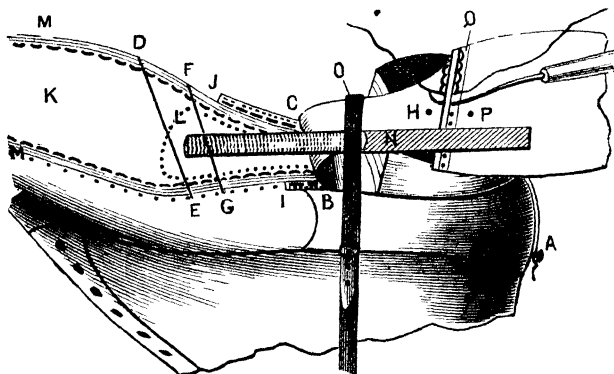
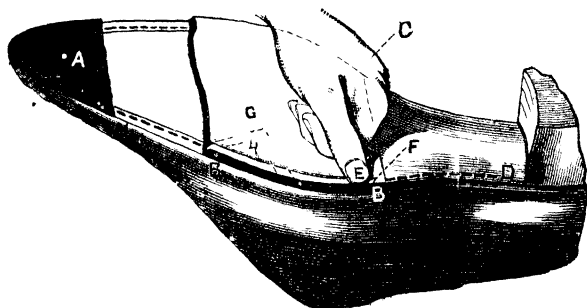
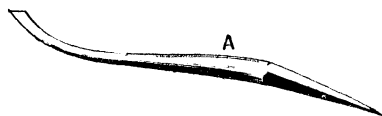
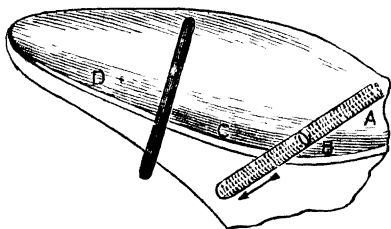

Fig. 52.—Grafting Sole to Waist.
Fig. 56.—Fitting, Stitching, and Sewing.
Fig. 58.—Blade of Stitching-awl.
Fig. 60.—Rubbing down Channel.
A thin long tack must be put in the back of the boot to keep the last in its place, as at A (Fig. 52). Then put the sole and welt part in water, and when wet, take out the boot, wipe it, and cut the old sole off. This is done by putting a knife between the sole and welt at B, and continuing right along, round the toe, and down the other side to C. The old sole can then be cut away, cutting across from D to E to make a riveted or pegged graft, as shown on p. 51, or from F to G to make a sewn graft.
**K** (Fig. 52); if not, replace it with new. Felt is used for this purpose; cut a piece a little larger than the old, and paste down the shank—this is generally a piece of skived leather, which reaches from under the heel to the dotted line, **L** (Fig. 52), and just the width of the waist. Then paste the new piece of felt in the bottom, well hammer it in all over; and when dry skive off the edge all round at **M M** (Fig. 52), making it level with
The boot is now put across the knees, in the position shown in Fig. 52, with the toe towards the left and the back part towards the right knee, and—as also shown in the illustration—with the old waist tied back. The new sole can be put against the old leather, and an old rasp, N, put along the top, as shown, and the strap or rope, O, placed round the waist of the boot, as shown, and passing over the rasp. The strap will, as it is pressed by the worker's foot upon the shank, L, the old waist, H, and the new sole, P, keep them all solid while the graft is being sewn. A strong thread—about fifteen strands of No. 9 Patent, or its equivalent of stouter hemp—should be used, and plenty of wax should be worked into the thread before it is twisted.
This grafting is done with the piece on the top of the heel, according to the position of the old leather, as will be seen in Fig. 52. This is the most convenient plan,
If it is found difficult to keep the sole firmly in position by means of the rasp only, a long rivet can be put in through into the old lifts at H, and another at P (Fig. 52). The heeling should be left till the soling is done, and the two holes can be rubbed out in the finishing.
have a thin coat of paste. The sole can now be put into its place, and pulled towards the toe to keep it in position. A rivet is put through at A (Fig. 56), and another through the hole, P, in Fig. 52.
This done, hammer the sole evenly all over, and then pare it all round the edge, close to the welt, as shown at B B (Fig. 56). As the sole is wet, with a little care this can be done easily without cutting the upper part, and should form one even edge all round, kept square or at right angles with the flat of the sole, taking care not to go too close to the welt. A line can now be drawn all round with the compasses, about  $\frac{1}{8}$  in. from the edge; and upon this line the channel is to be cut to receive the stitch.
When the cut has been made (Fig. 56) from B round the toe to C, it can be opened with any blunt instrument. This is so that you may see the point of the awl when it comes out in the pit or centre of the channel, and also to give space for the stitch to fall into. To prevent the stitching-awl from notching the inner edge of the channel, which would make it irregular and unsightly when finished, it can be turned over for about two inches ; and when about a dozen stitches have been made, pass the left-hand thumb-nail along the channel from the last stitch, and turn over for another two inches.
The sewing is started at D (Fig. 56), and the sewing-awl (Fig. 57) is used till the first stitch on the new leather is reached at E ; then the stitching-awl (Fig. 58) is used. At the two points, E and C, the sewing and
and is a similar tool to the sewing-awl, with the exception of being flat (as shown in Fig. 58); and it is now almost generally known as the square awl. From this figure it will be seen that when put into the handle the stitching-awl has a double curve. This makes it more
The boot is held by the strap on the knees, toe towards you, on its side, with the sole to the left, and the upper to the right. The thumb of the left hand is pressed firmly against the bottom of the sole, as shown by E in Fig. 56, just beyond where the point of the awl is to come out. The awl is then laid against the upper, with the point on the flat of the welt, and it is pushed through. One sharp push, at the same time dropping the elbow a little,
The raised edge of the channel is rasped away with an old file, taking strokes outward from the centre of the sole, the boot being held in the left hand, with the heel towards you. The file strokes proceed, as shown by the arrow at A B (Fig. 60), towards the toe, and are continued all round.
The boot is then replaced in the same position as at first, and the ridge over the channel is rubbed hard up and down with a bone or long stick, held with one end in each hand, as shown from C to D in Fig. 60, until the whole is smoothed. By these means the thin narrow strip of grain, H (Fig. 58), is thrown towards the edge, where it forms a burr all round. The boot is then held with the toe towards you. With the back of the knife the edge of the sole is scraped upwards, to throw this burr